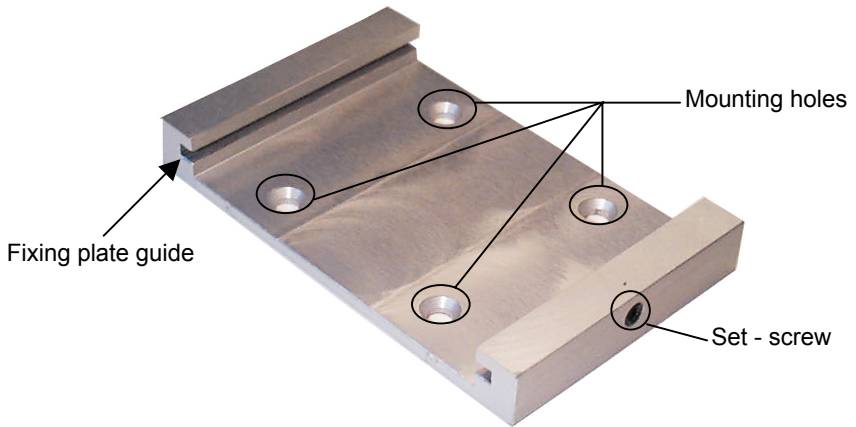

Figure 3 - Wall Mounting Base
5. Insert STARGATE™ (as shown in Figure 3) by sliding the fixing plate along the guide on the mounting base;